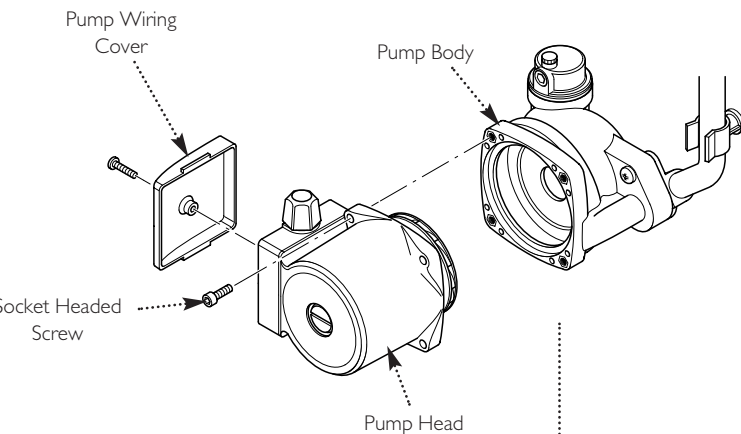

Fig. 58
3. A standard Grundfos I5-60 replacement head can now be fitted. Connect the wiring to the new head. **The pump speed must be set to 3 (Fig. 58).**